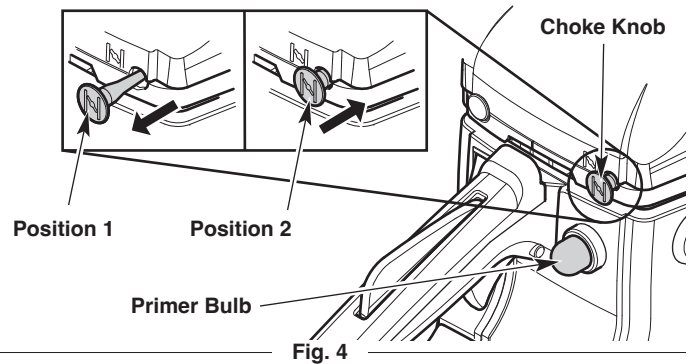

Fig. 4
7. Slowly press and release the primer bulb **10 times** (Fig. 4). If fuel cannot be seen in the primer bulb, press and release the primer bulb until fuel is visible.
8. Pull the choke knob out to **Position 1** (Fig. 4).
12. **DO NOT** touch the throttle control. Push the choke knob in to **Position 2** (Fig. 4).